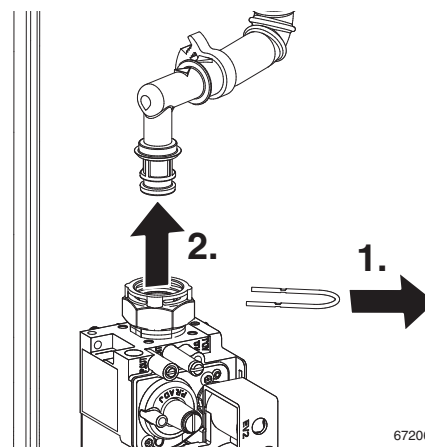

Fig. 83 Gas valve connection
1. Refer to figure 83 and remove the clip from gas valve outlet.